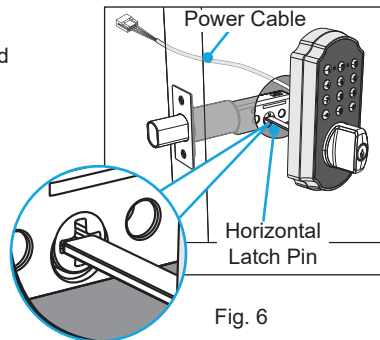

Fig. 6
**Step 1.** Start with the outside section. Feed the power cable above the latch and thread the latch pin through the square hole in latch. The latch pin must be horizontal while inserting the square hole in latch (Fig. 6).